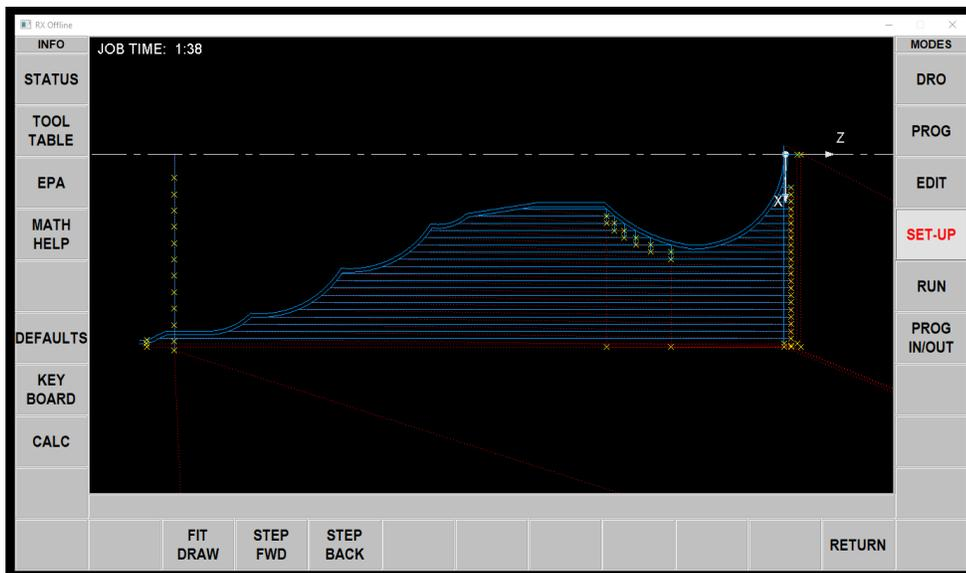

Figure 20
- Press the SET-UP then TOOL PATH soft keys to preview the programmed toolpaths (Figure 20). Press the RETURN when done exploring this view.